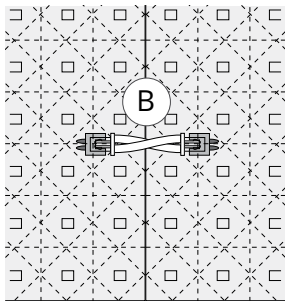
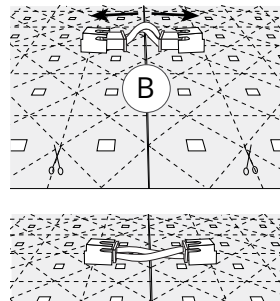

Figure 1
Figure 2
Short sheet-to-sheet connectors (B): When adjacent Light Sheets are mounted side-by-side with connection blocks aligned, the shorter sheet-to-sheet connection wires (B) should be used to interconnect multiple sheets. Their lengths are optimized so sheets align snugly. See Figure 1. When connecting Light Sheets that are already mounted to a fixed surface, the short connection wires (B) will need to be shaped as shown in Figure 2 prior to pushing into connection blocks. Best practices include using two sheet-to-sheet connection wires for all adjacent Light Sheets in each Class 2 circuit to minimize voltage drop. Dry-fit test for proper illumination prior to mounting Light Sheets to the mounting surface and again before the forward facing material is installed.